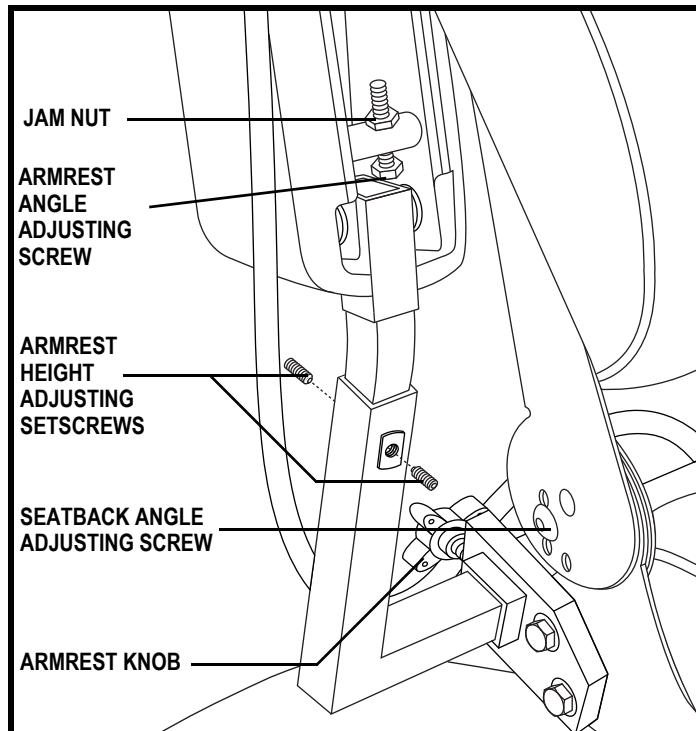

Figure 13. Seatback/Armrest Adjustment
1. Remove the adjusting screws from each seat hinge. **See figure 13.**
1. Locate the two armrest knobs on each side of the armrest receiver bracket. **See figure 13.**
1. Lift the armrest straight up so that it is perpendicular to the floor. **See figure 13.**
1. Loosen the two setscrews located on the armrest receiver. **See figure 13.**